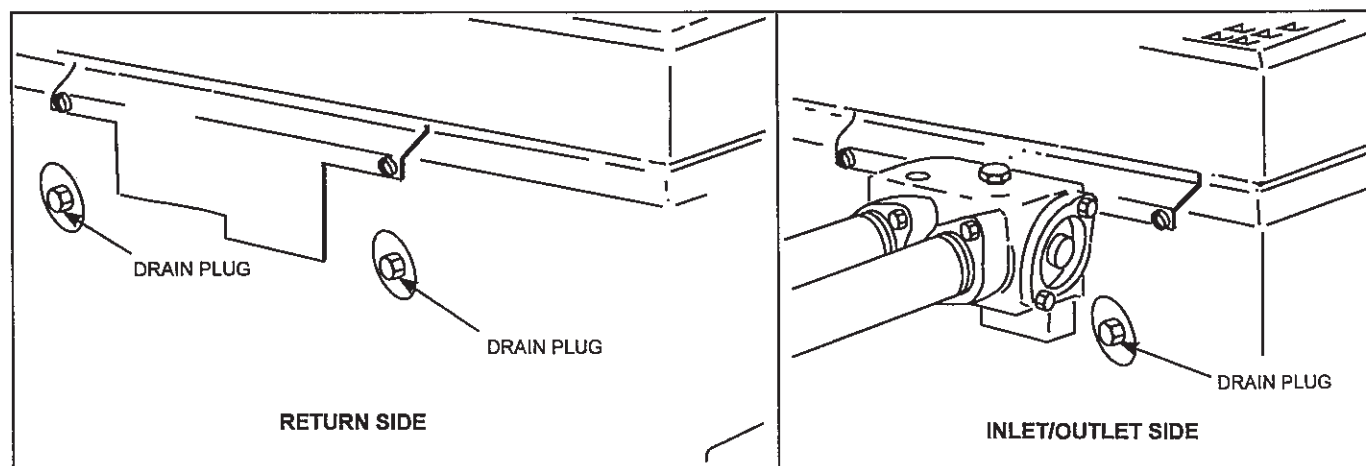

Figure 20. Heater drain locations.
4. Remove the drain plug from the return side (see Figure 20), loosen the drain plug from the inlet-outlet side, and completely drain the heater before the first frost.